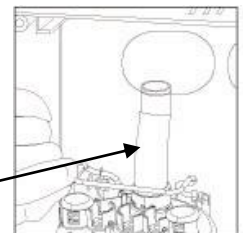

Figure 7.c.
7. Ensure **NEW** O-ring and bushing are properly re-seated before inserting new cylinder. (See Figure 7.c.)